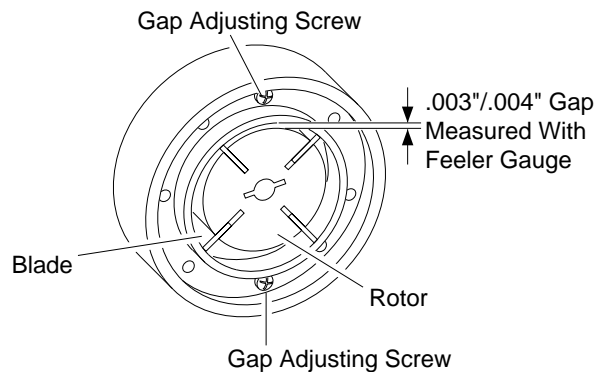

Figure 16 - Gap Adjusting Screw Locations
9. Check gap on rotor. Adjust to .003"/.004" if needed (see Figure 16).